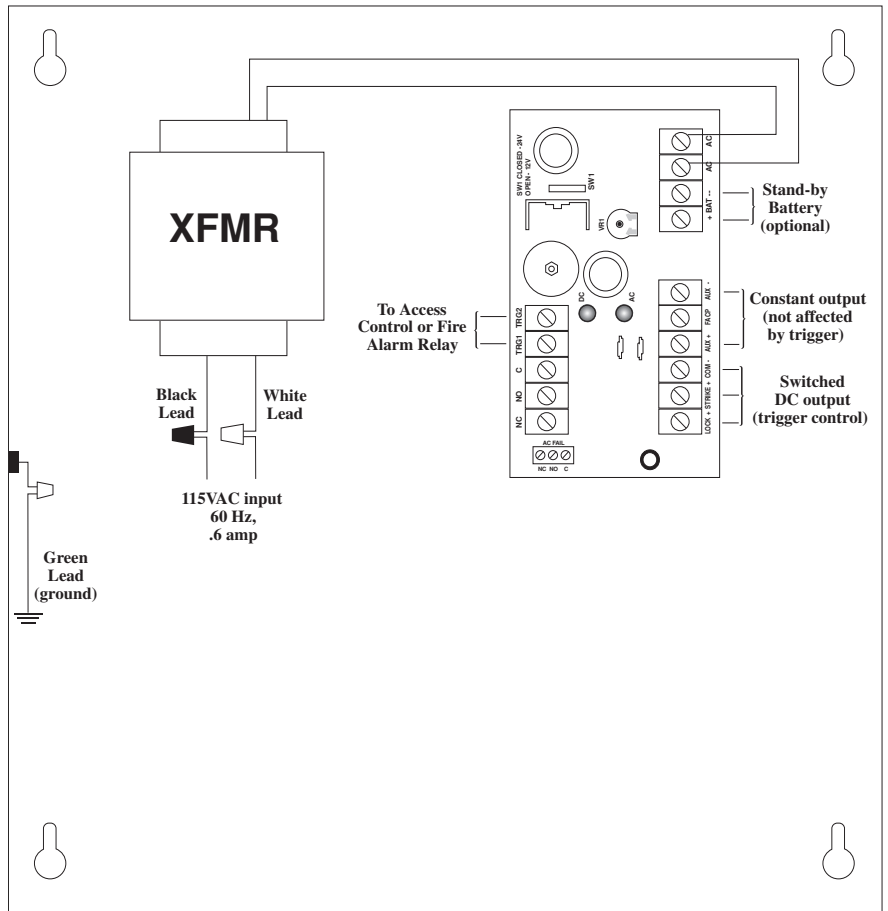

Fig. 1
8. For Access Control applications, batteries are optional. When batteries are not used a loss of AC will result in the loss of output voltage. When the use of stand-by batteries is desired, they must be lead acid or gel type. Connect battery to terminals marked [+BAT -] (*Fig. 1*). Use two (2) 12VDC batteries connected in series for 24VDC operation (battery leads included).